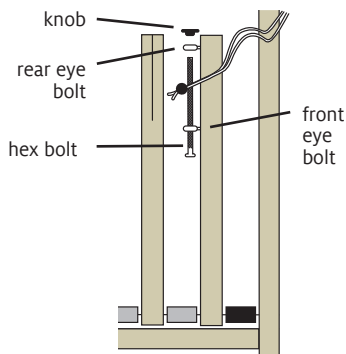

FIGURE 9: TIE-UPS ON OUTER TREADLES
20. The 2 outer treadles on the 8.10 do not have slots like the 8 inner treadles; they have a hex bolt and knob instead (Figure 9). To attach tie-ups to these treadles, remove the knob and push the hex bolt towards the front of the loom until its shaft sits between the two eye bolts. Loop the button end of the tie-up over the bolt shaft. Slide the hex bolt back through the rear eye bolt and reattach the knob.